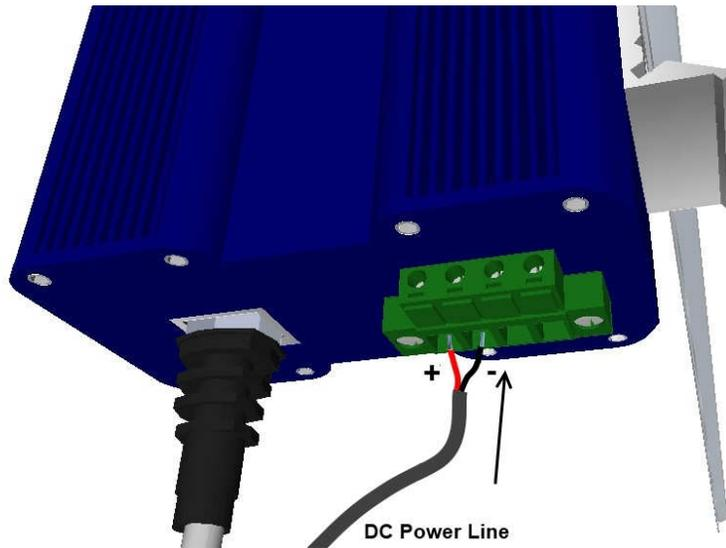

Figure 2.4.4 – Insert power line
5. Insert the two wire of the power line into the terminal strip and screw it tight as indicated on Fig. 2.4.4.